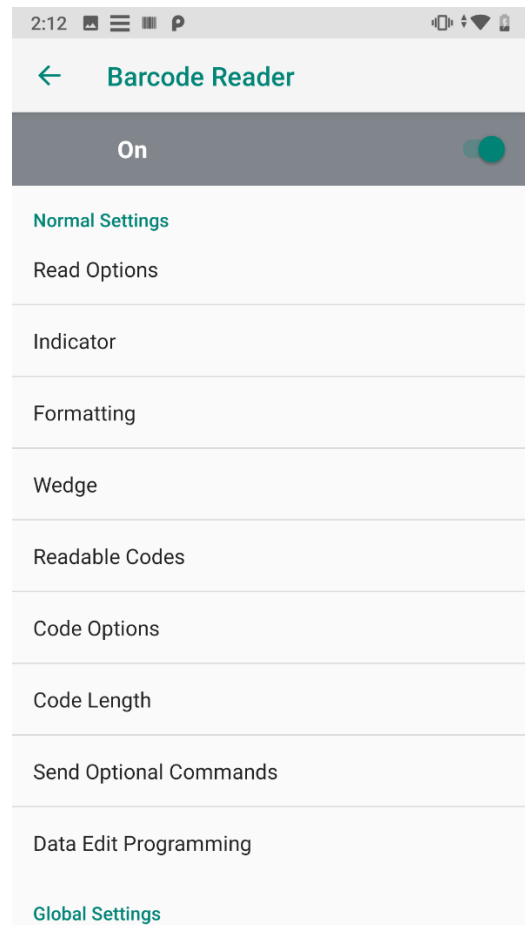

Figure 12-2: The *Barcode Reader* settings page where we must configure the terminal settings for OptiConnect integration.
2. On the **Barcode Reader** settings page, ensure the reader is turned on as in Figure 12-2.